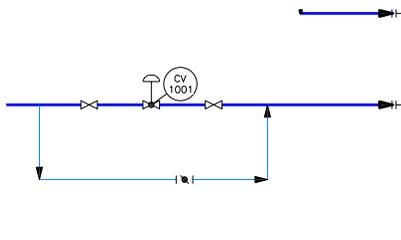

Figure 2-63 Location of the gate valve and butterfly valve on the line connected to the vessel
- Choose **Gate Valve** from the **Valves** area in the **Valves** tab of the **TOOL PALETTES - P&ID PIP**, and place it at two locations, as shown in Figure 2-63.
- Next, choose **Butterfly Valve** and place it at the location shown in Figure 2-63.